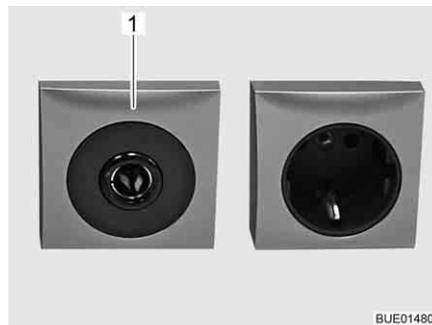

Fig. 160 12 V/10 A socket
- ▷ Only connect devices with a maximum of 10 A to the sockets (Fig. 160,1) of the 12 V power supply.